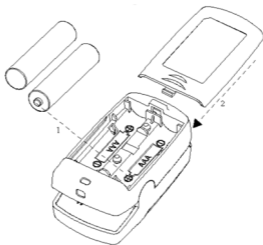

Figure 2
2. Refer to Figure 2, insert two AAA size batteries into the battery compartment properly.